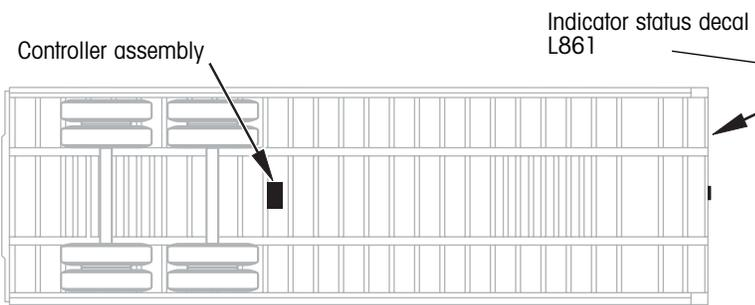

Figure 25. Recommended controller assembly mounting location and label placement
1. Install indicator status decal L861 at the front of the trailer near the indicator (figure 25).